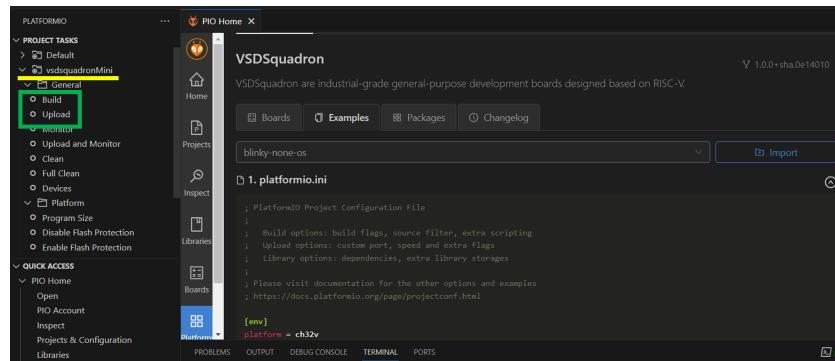

Figure 11: VSCode GUI highlighting "vsdsquadronmini" under "PROJECT TASKS" and "Build" "Upload" buttons
- You should see "vsdsquadronmini" under "Project Tasks" as shown in Figure 11
- Click on "Build" and "Upload" button as shown in Figure 11